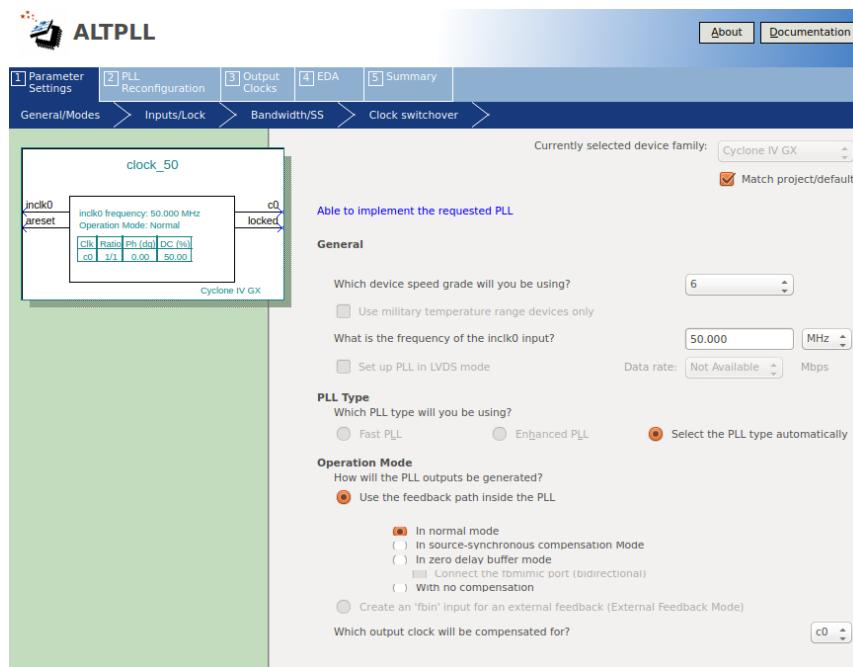

fig 3.1.8
25. Under **Parameter settings -> General/Modes**, change the frequency of the **inclk0** input to 50MHz and speed grade 6. See fig 3.1.8